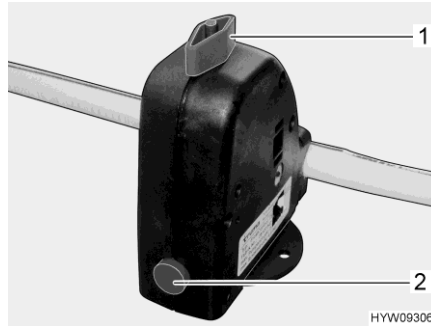

Fig. 90 Safety/drainage valve (boiler)
The boiler is equipped with a safety/drainage valve (Fig. 90). The safety/drainage valve prevents water in the boiler from freezing, when there is frost and the heater is not switched on.
- Close the safety/drainage valve. Turn the knob (Fig. 90,1) perpendicular to the safety/drainage valve and push the push button (Fig. 90,2) in.
- Open the safety/drainage valve. To do this turn the knob (Fig. 90,1) parallel to the safety/drainage valve. The push button (Fig. 90,2) jumps out. The boiler is drained to the outside by the safety/drainage valve.